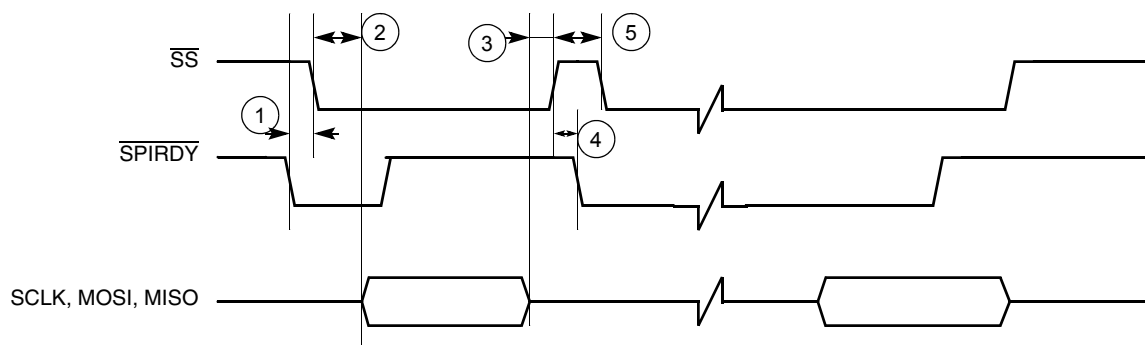
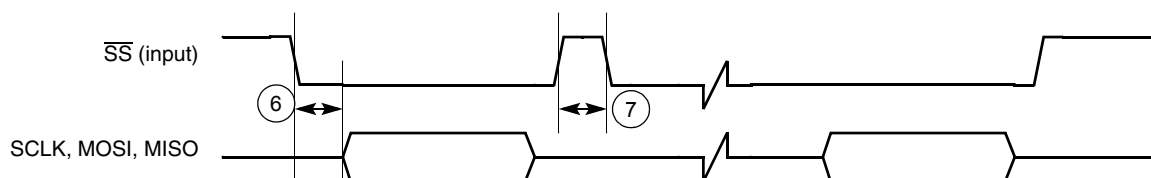

Figure 38. Master SPI Timing Diagram Using $\overline{SPI\_RDY}$ Edge Trigger
Figure 42. Slave SPI Timing Diagram FIFO Advanced by $\overline{SS}$ Rising Edge
To use the internal transmit (TX) and receive (RX) data FIFOs when the SPI module is configured as a master, two control signals are used for data transfer rate control: the $\overline{SS}$ signal (output) and the $\overline{SPI\_RDY}$ signal (input). The SPI1 Sample Period Control Register (PERIODREG1) can also be programmed to a fixed data transfer rate. When the SPI module is configured as a slave, the user can configure the SPI1 Control Register (CONTROLREG1) to match the external SPI master's timing. In this configuration, $\overline{SS}$ becomes an input signal, and is used to latch data into or load data out to the internal data shift registers, as well as to increment the data FIFO. Figure 38 through Figure 42 show the timing relationship of the master SPI using different triggering mechanisms.
Table 22. Timing Parameter Table for Figure 38 through Figure 42